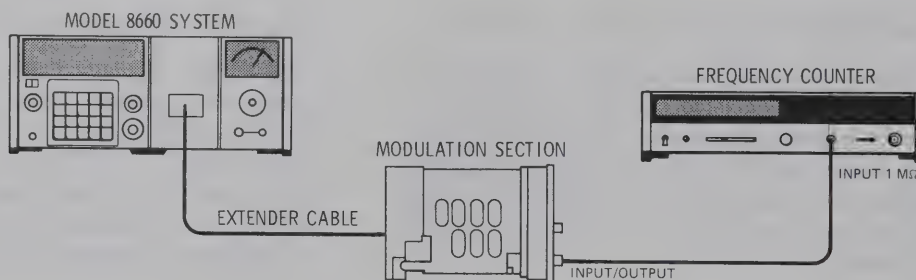

Figure 5-1. Modulation Oscillator Adjustment Test Setup
1. Connect the equipment as shown in Figure 5-1.